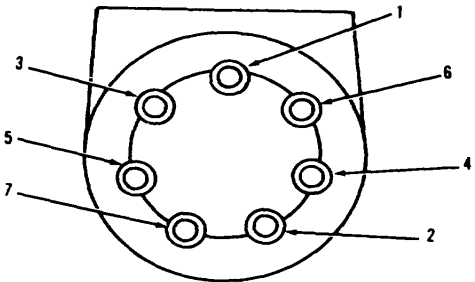

Figure 8-11.
- 9. Install new preformed packing (9), cap (8) and seven bolts (7). Tighten seven bolts (7, Figure 8-11) initially to 10 ft-lb torque in the order shown. Then tighten to 21 ft-lb torque.